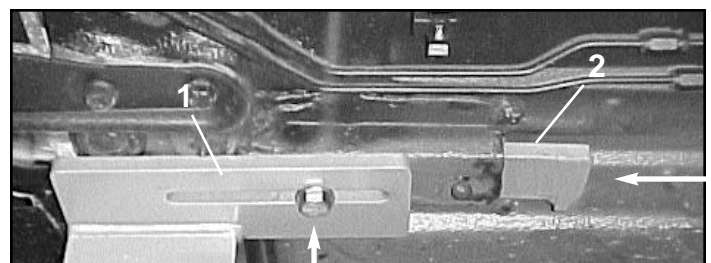

Figure 4
3. Slide inside rail base into vehicle's subrail as shown at far right of Figure 4. Then secure the inside rail base to the front adapter plate using 12mm bolt and 1/2 ASTM washer. Bolt extends upward through slot in adapter plate and hole in subrail and threads directly into hole in support bar.